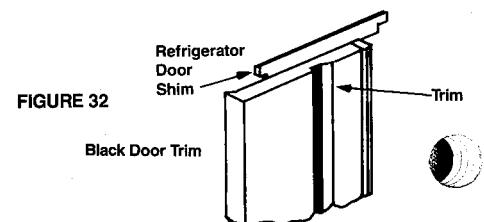
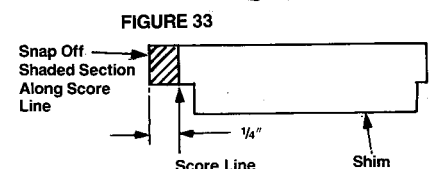

FIGURE 32
FIGURE 33
5. **NOTE:** On models having black handles and trim it will be necessary to modify a small black plastic shim located behind the top end of the upper trim piece on the handle side of the door. Remove shim by sliding part to the left on the freezer door and right on the refrigerator door. See Fig. 32 and 32A. Modify per Fig. 33, then reinstall shim by sliding it back into place.